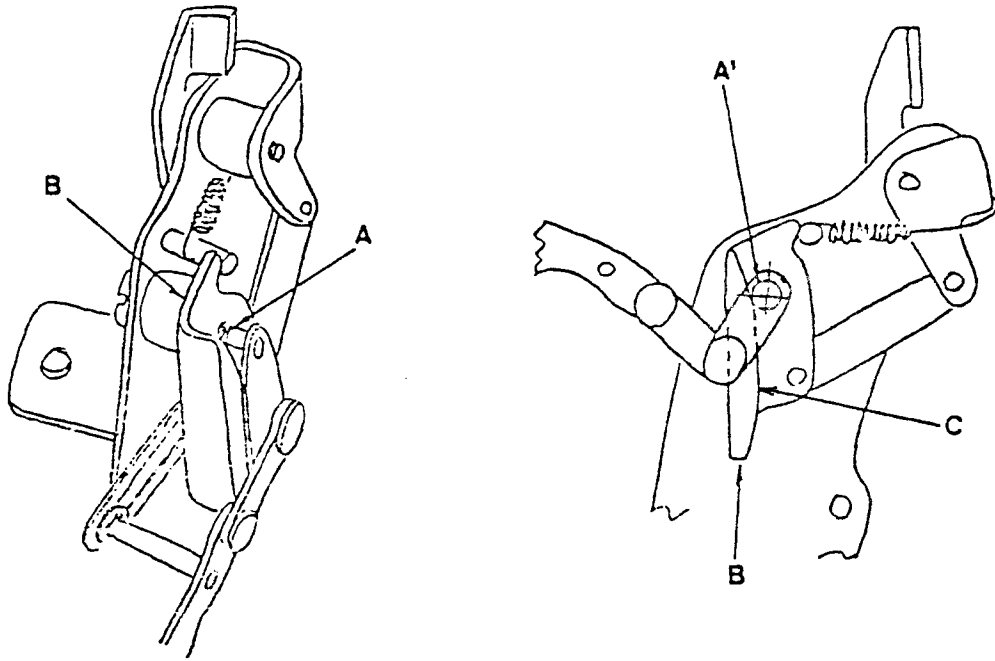

Fig. 29-1
2.    The center of feed regulator shaft crank link pin (A) should be aligned with fulcrum of cam controlled feed control lever (B), and perimeter (A) of feed regulator shaft crank link pin (A) must also be in contact with the curved face (C) of cam controlled feed control lever (B). (Fig. 29-1).